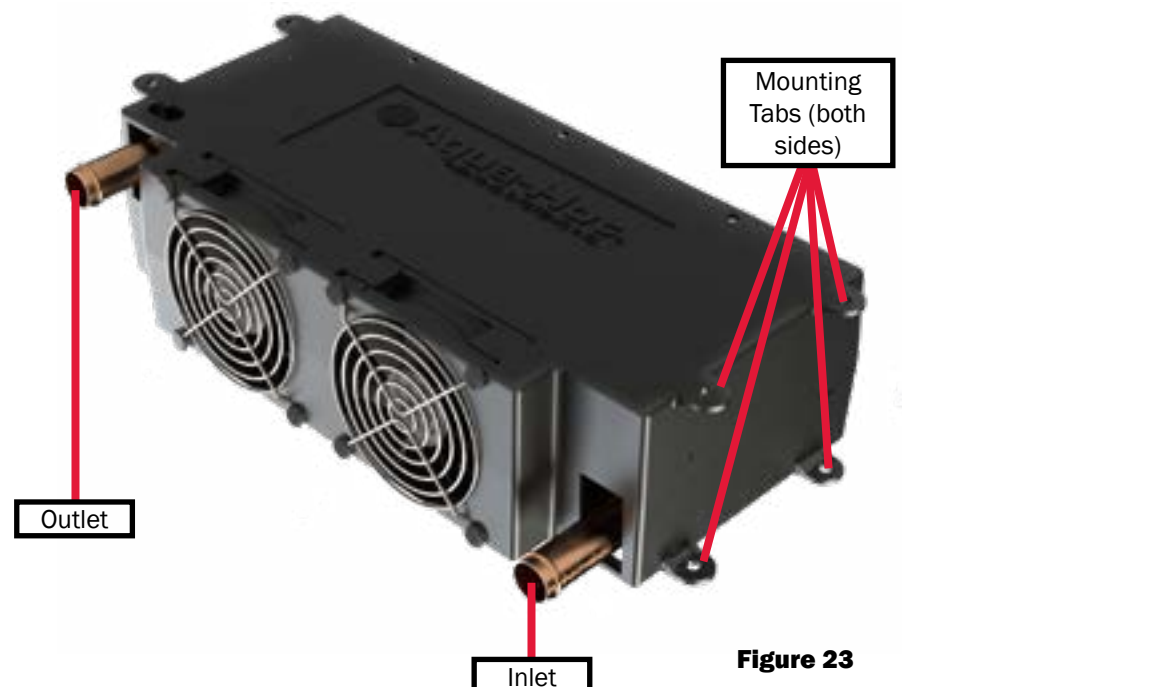

Figure 23
- The antifreeze and water heating solution must flow in through the bottom of the heat exchanger, and out the top (reference Figure 23).
- 2. Mount each heat exchanger permanently into place. There are 4 tabs on both sides - see Figure 23.